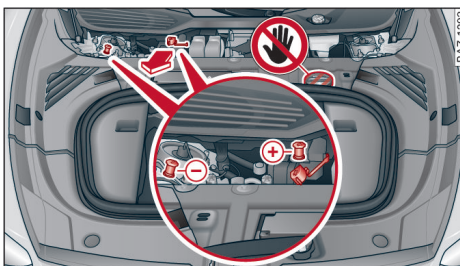

Fig. 149 Front compartment: connectors for a charger or jump start cables
- ▶ Remove the cover forward from the positive terminal ⇒ *fig. 149*.